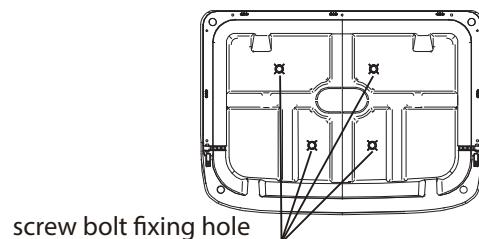

Fig. 8.5
2. Insert the M8 bolts into the unit while it is on the floor (the amount of bolts used depends on the number of holes on the unit's chassis). (See Fig. 8.5)